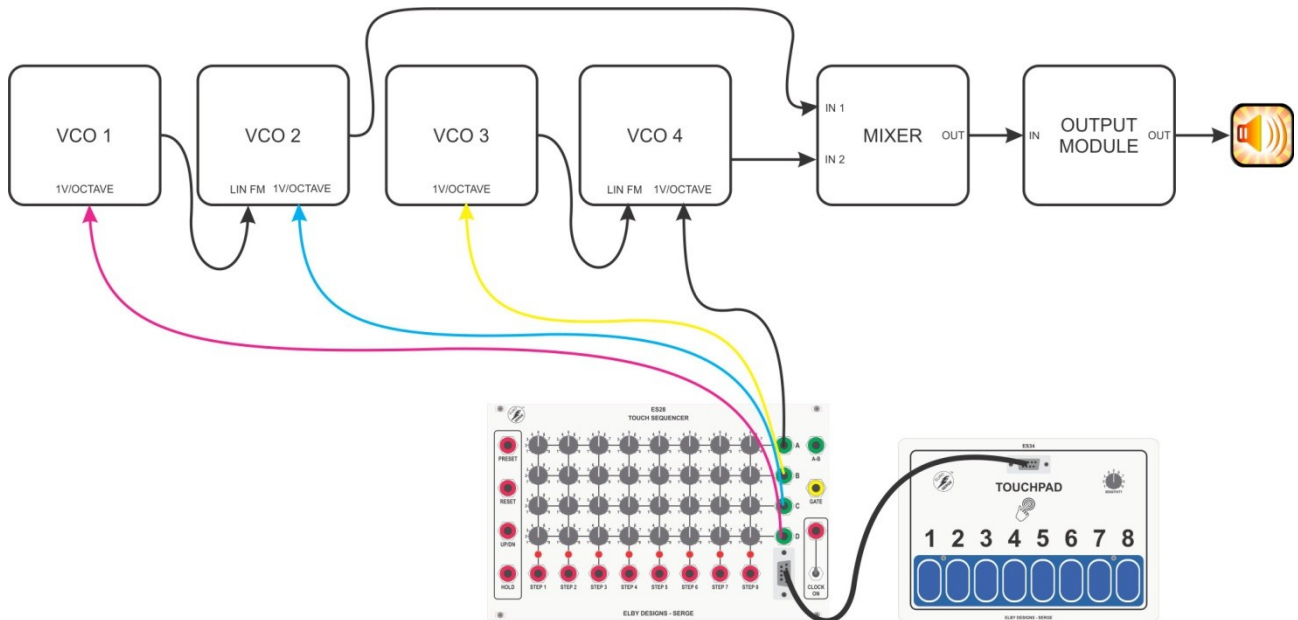

Figure 4.5.3
5.4 Patched in this fashion, none of the pots in rows [B], [C] or [D] have any effect. However if it is repatched so that the output of the ES28 is taken from output [B] instead of output [A] then only the pots in row [B] will be active. The same is true for rows [C] and [D]. It is possible to use all four of these outputs (or as many as needed) SIMULTANEOUSLY as in the patch in Figure 4.5.3.